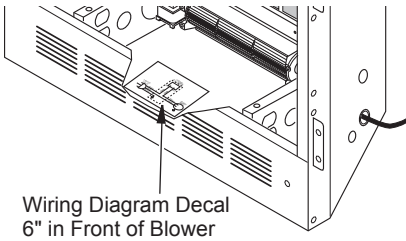

Figure 39 - Location of Wiring Diagram Decal (Model May Vary From Illustration)
10. Peel off backing paper and stick supplied wiring diagram decal on firebox bottom approximately 12" in front of blower (see Figure 39, page 24).
- Peel off backing paper and stick supplied wiring diagram decal on firebox bottom approximately 12" in front of blower (see Figure 39, page 24).